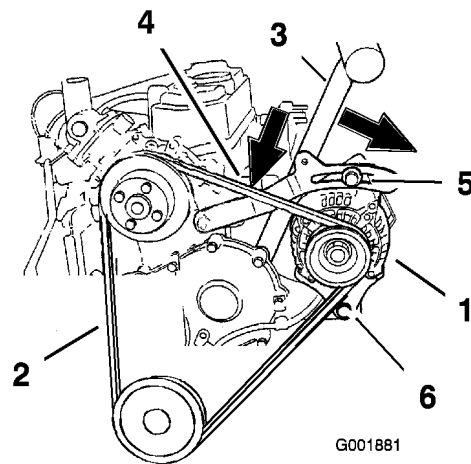

Figure 67
5. Loosen the two bolts holding the alternator (Figure 67).
6. Remove the belt from the pulleys and alternator (Figure 67).
7. Install a new belt around the pulleys and the alternator (Figure 67).
1. Place a handle between the alternator and cylinder block (Figure 67).
2. Adjust the alternator to the outside until there is 3/8 to 1/2 inch (10 to 13 mm) deflections in the belt between the engine and the alternator (Figure 67).
5. If the deflection is correct, torque the upper bolt to 170 in-lb (19 N•m) and the bottom bolt to 45 ft-lb (61 N•m) (Figure 67).